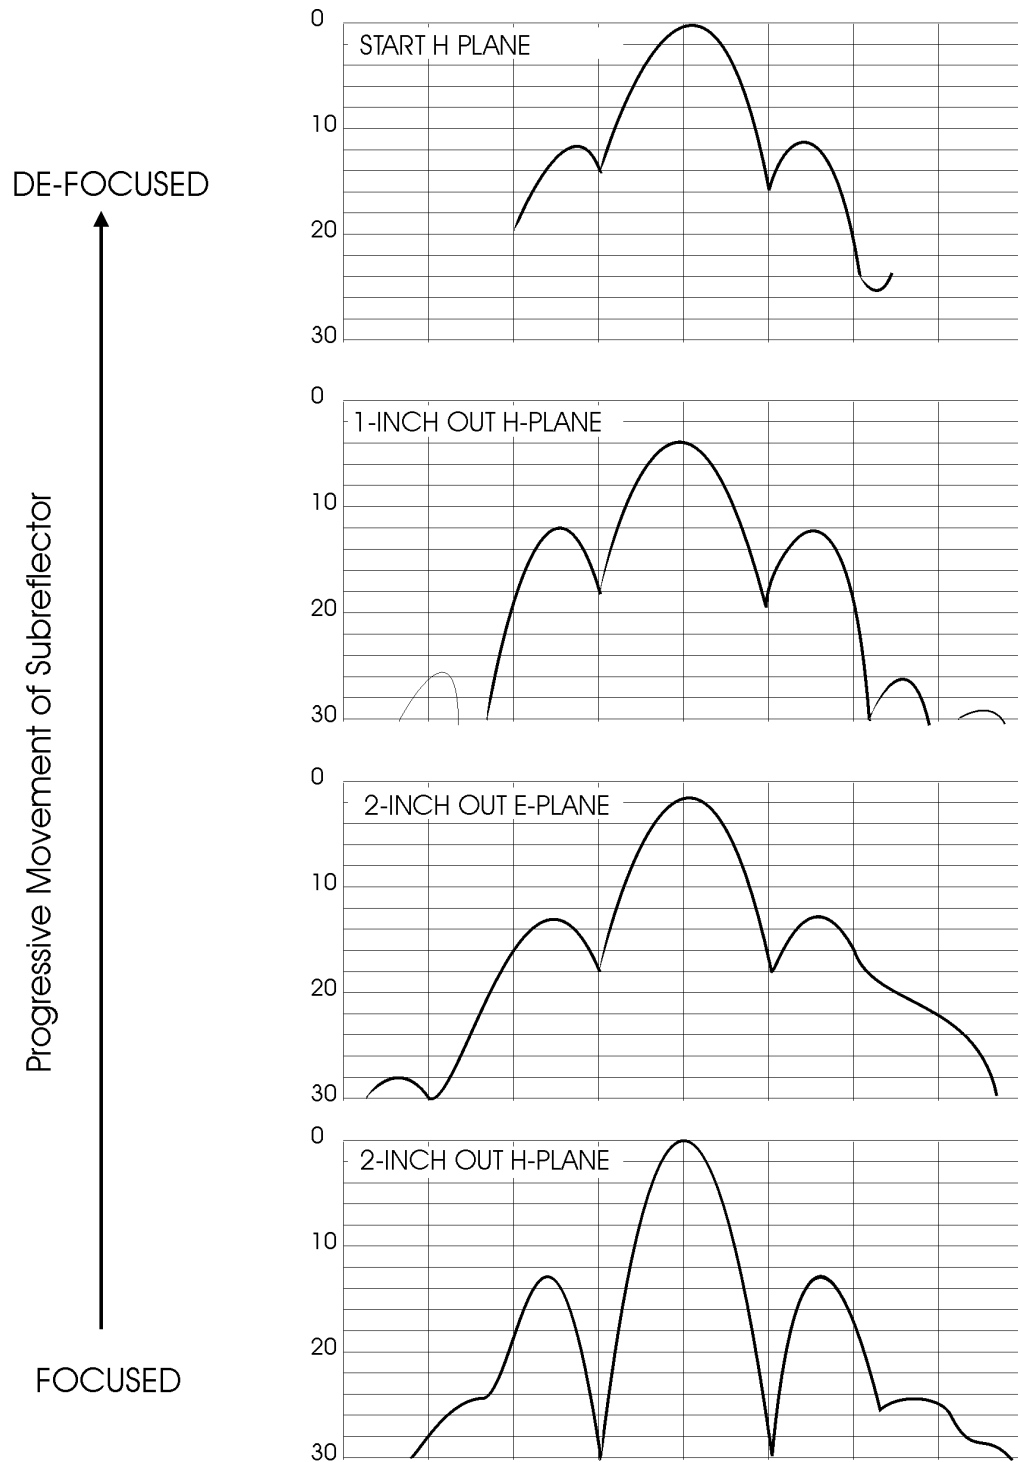

Figure 3-2 Typical Antenna Patterns for Various Subreflector Position
The radiation pattern (relative power versus off-axis angle) should be recorded and evaluated for each adjustment of the subreflector. Typical patterns at various subreflector positions which are identified in Figure 3-2 show the changes which take place as the subreflector is moved closer to the optimum focal position.
- a. The first nulls to each side of the main beam will become deeper and eventually bottom out at some level (See Figure 3-2). This level varies depending on the antenna, but should be equal to or greater than 10 dB below the level of the first sidelobe. The deepest null in the H-plane sometimes occurs at a different subreflector position than in the E-plane. In this case, the subreflector should be set at a compromise position between the two planes (i.e., E-plane null depth approximately equals the H-plane null depth).